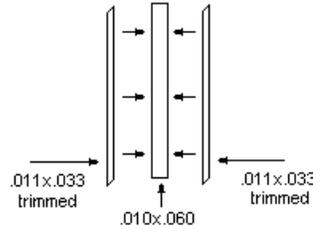

Figure 5. Details of the end support construction.
7. The center uprights (I'm not sure what they're really called) on the C&O cars are channels. The one's on the Athearn car are simple angles – that's why we took them off. Build new ones from one piece of .011 x .060 styrene for the back and 2 pieces of .011 x .033 (trimmed to be just a little wider than the thickness of the back) for the sides (See Figure 5). These supports are a scale 5' long. Make four – two for each end. Glue them in place a scale 3' from the sides.